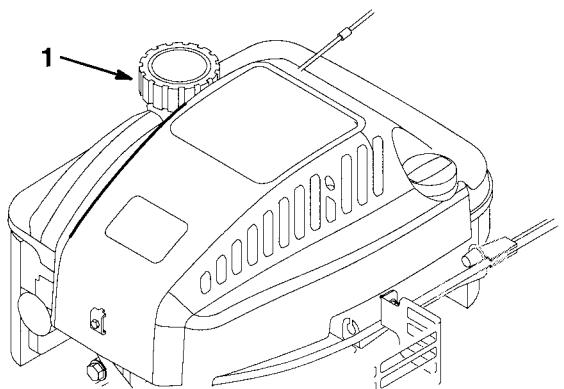

Figure 8
2. Clean around fuel tank cap and remove cap from tank (Fig. 8).